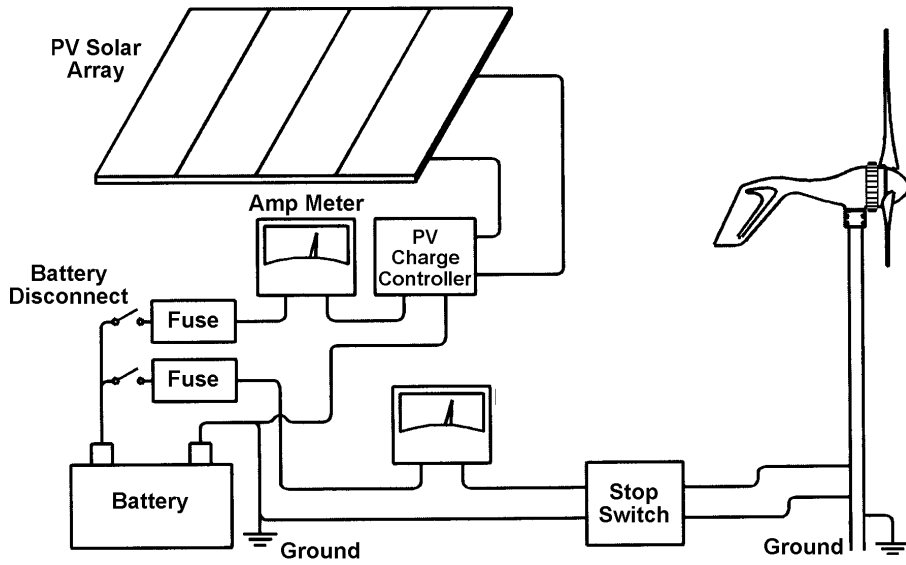

Figure 4
- 11) Run all wires from the turbine to the battery (do not connect wires to the battery). Be sure to crimp and solder the connections using the appropriate sized connectors. If you plan to connect an amp meter into your system, see Figure 4, on page 12.